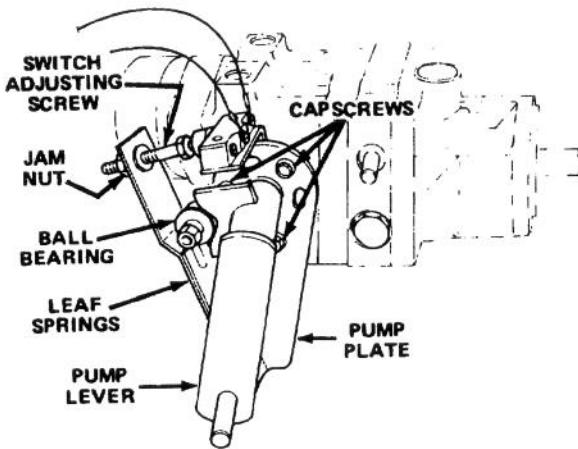

Figure 58
1. Park vehicle on a level surface and turn engine off. Apply the parking brake, tip seat forward and actuate pump lever (Fig. 58) to insure assembly is properly seated and operating freely. Correct any discrepancy.
6. Because the wheel is rotating, the pump plate must be adjusted. But before adjusting the pump plate, move throttle to SLOW. If wheel is rotating forward, loosen capscrews and lightly tap bottom of pump plate counterclockwise (Fig. 58). By contrast, tap pump plate clockwise if wheel is rotating backward (Fig. 58). When wheel stops rotating, tighten capscrews holding pump plate against side of transmission. Verify the adjustment with throttle in SLOW and FAST position.
2. Actuate the pump lever (Fig. 58) to insure all parts are operating freely and seated properly.
3. Loosen jam nut. Rotate switch adjusting screw (Fig. 58) until there is a gap between head of screw and switch button.
- A. Ball bearing is loose or worn out (Fig. 58).
- F. Weak or damaged leaf springs (Fig. 58). Replace.